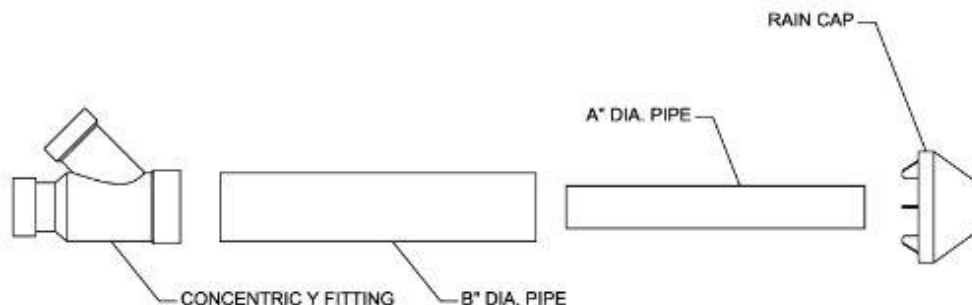
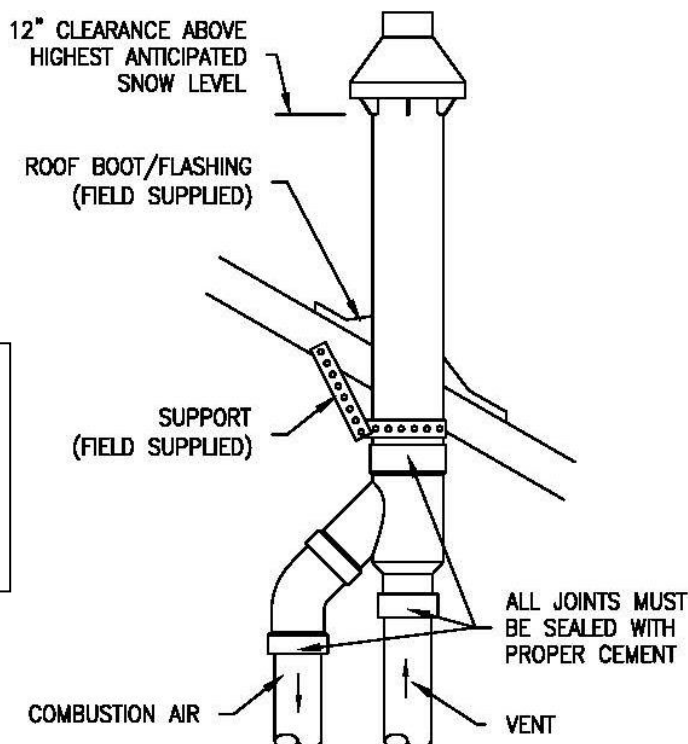
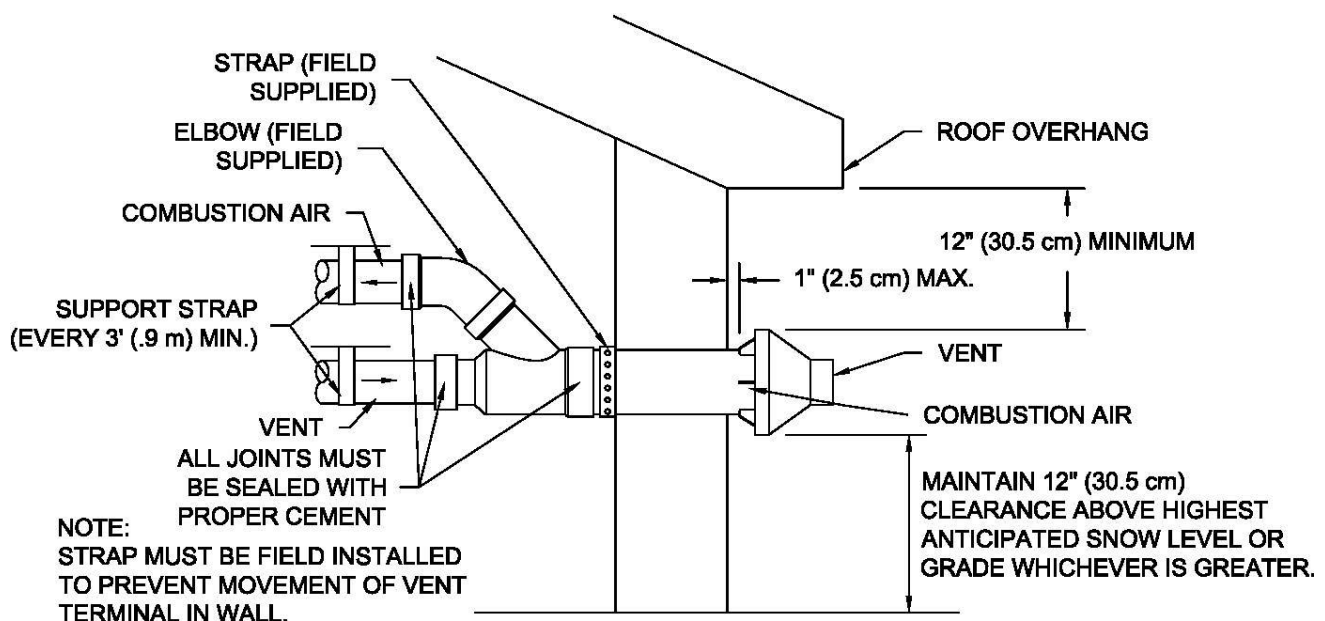

Figure 21 – 3" & 4" Concentric Vent Kits Part Identification
Figure 23 - Concentric Vent Roof Top Attachment
Figure 24 - Concentric Vent Side Wall Attachment
- a. Cement concentric Y fitting to larger diameter pipe (see Figure 21).
6. Secure assembly to roof structure as shown in Figure 23 using field-supplied metal strapping or equivalent support material.
Ensure termination height is above the roof surface or anticipated snowfall (see Figure 23).
8. Cement heater combustion-air and vent pipes to concentric Y fitting assembly (Figure 21). See Figure 23 for proper pipe attachment.
- a. Cement concentric Y fitting to larger diameter kit pipe (see Figure 21).
7. Secure assembly to structure as shown in Figure 23. Ensure clearances as shown in Figure 24.
8. Cement heater combustion-air and vent pipes to concentric Y fitting termination assembly. See Figure 24 for proper pipe attachment.